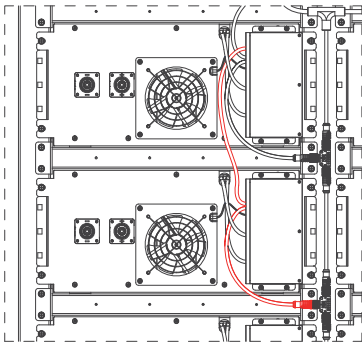

Figure 2.9
(5) It is the same for the connection between the previous BMU communication output port and the next BMU communication input port. Note: The BMU communication input port (UP_IN) at the lower end and the output port (DN_OP) at the upper end shall not be reversed. (Figure 2.9).